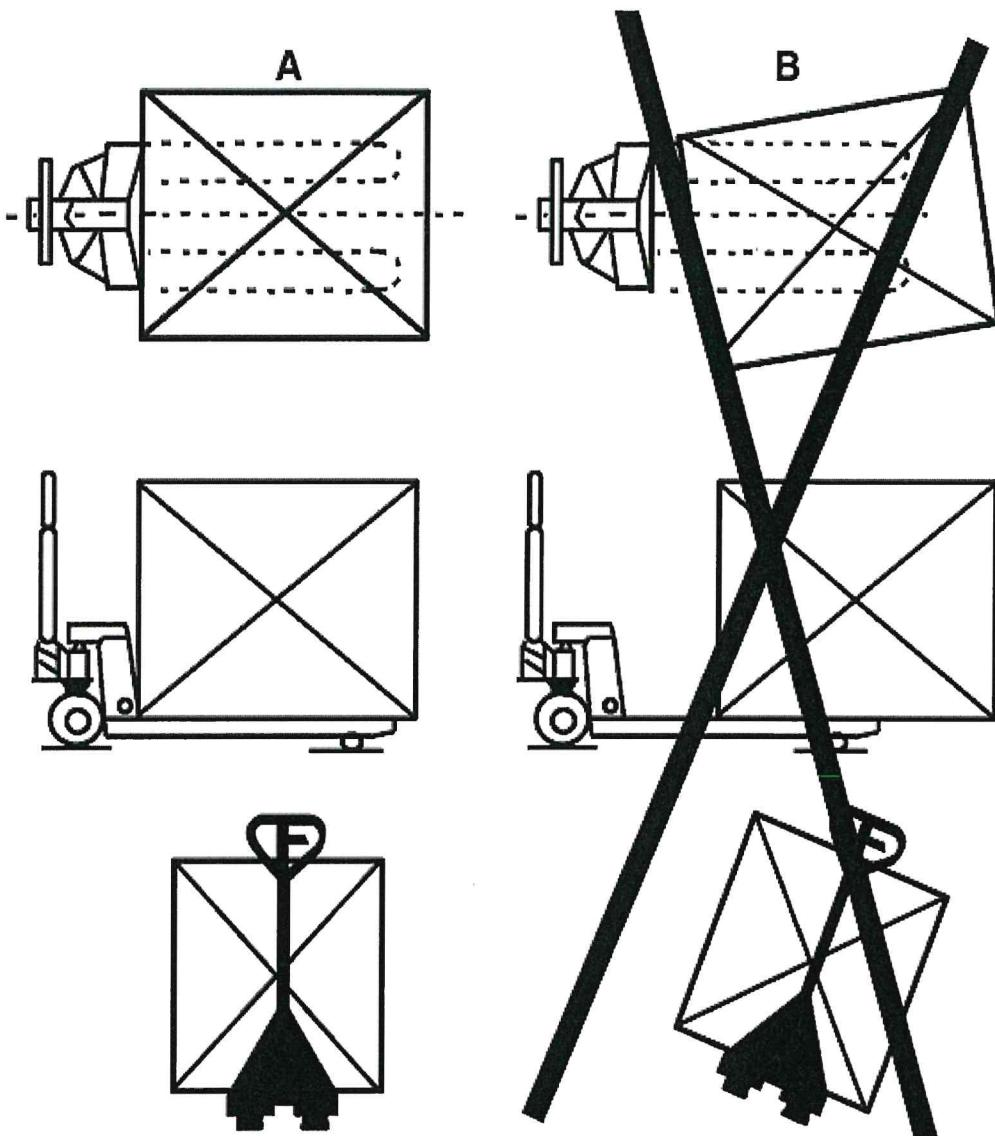

Figure 5
- f) Do not move loads as shown in Fig. 5/B.